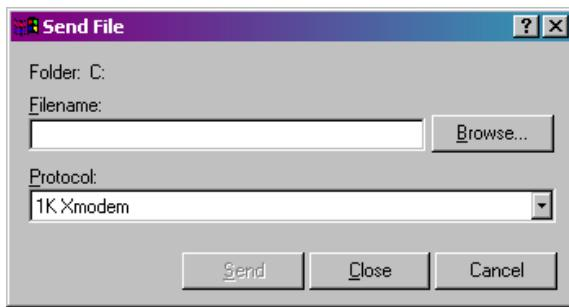
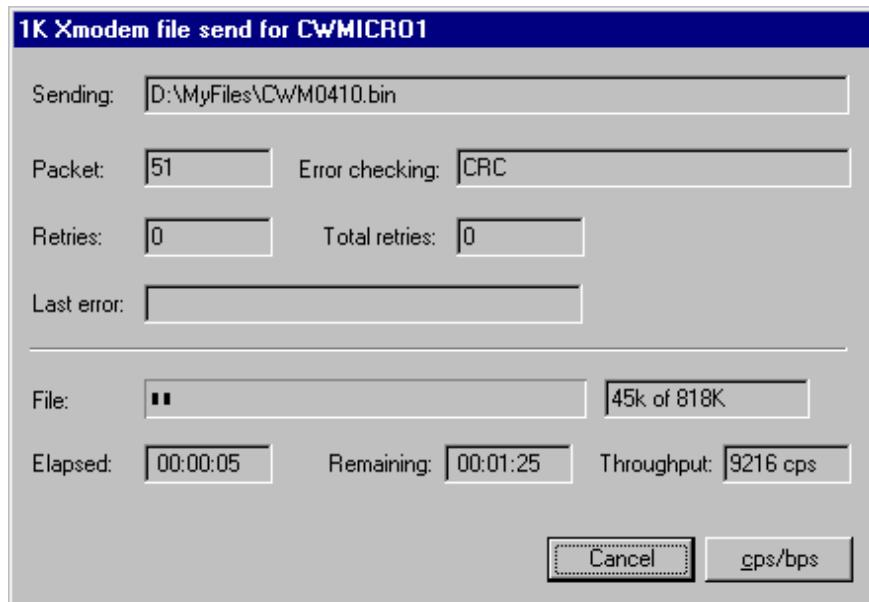

Figure 5-3. Send File dialog box
Figure 5-4. HyperTerminal (Download in Process)
- 8.** In the Send File dialog box (see *Figure 5-3*), select **1KXmodem** for the protocol, enter the filename of the appropriate .bin file in the format “CWMxxxxx.bin” (where xxxx varies from release to release) and click **Send** to start the flash upgrade (see *Figure 5-4*). When you see the HyperTerminal Mode Menu again, it means the download has completed.